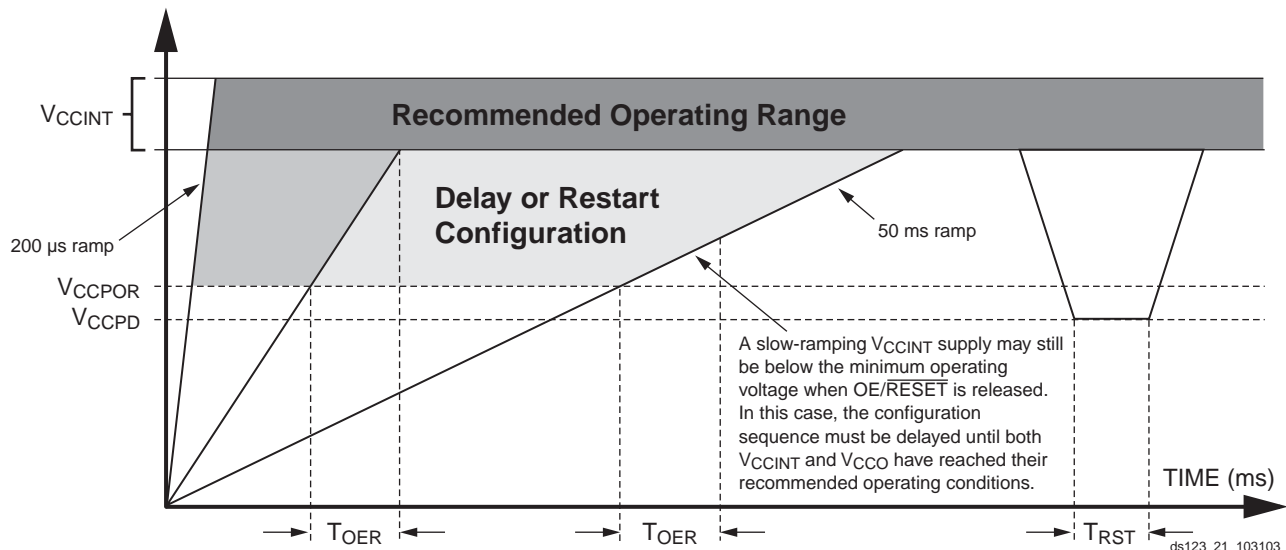

Figure 16: Platform Flash PROM Power-Up Requirements
power-down threshold (V_{CCPD}), the PROM resets and $\overline{OE/RESET}$ is again held Low until the after the POR threshold is reached. $\overline{OE/RESET}$ polarity is not programmable. These power-up requirements are shown graphically in Figure 16.
- At power up, the device requires the V_{CCINT} power supply to monotonically rise to the nominal operating voltage within the specified T_{VCC} rise time. If the power supply cannot meet this requirement, then the device might not perform power-on-reset properly. See Figure 16, page 22.